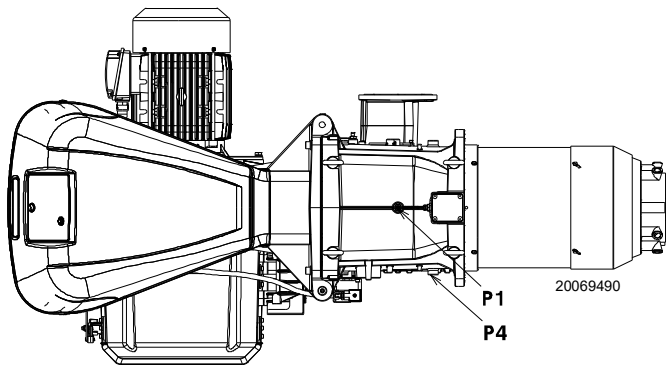

Fig. 22
Gas pressure measured at the test point P1)(Fig. 22), with:
- subtract the combustion chamber pressure from the gas pressure measured at test point P1)(Fig. 22).
To calculate the required gas pressure at test point P1)(Fig. 22), set the MAX output required from the burner operation:
- Read, on the right (column 1), the pressure at the test point P1)(Fig. 22).
Pressure required at test point P1)(Fig. 22).